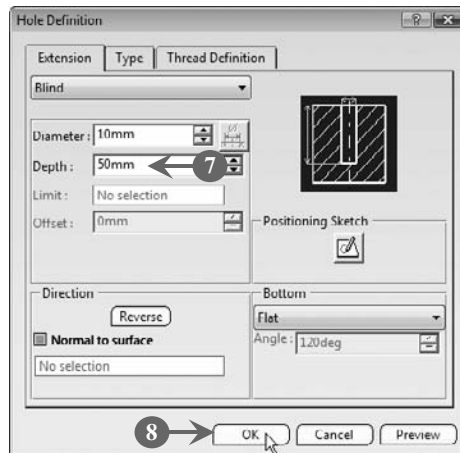

FIGURE 4.42
The **Hole Definition** dialog box opens (**Figure 4.42**).
7. Specify the options, such as diameter and depth of the hole, in the **Hole Definition** dialog box (Figure 4.42). In our case, we have just changed the depth of the hole in the **Depth** text box from **10 mm** to **50 mm**.
8. Click the **OK** button to close the **Hole Definition** dialog box, as shown in Figure 4.42: